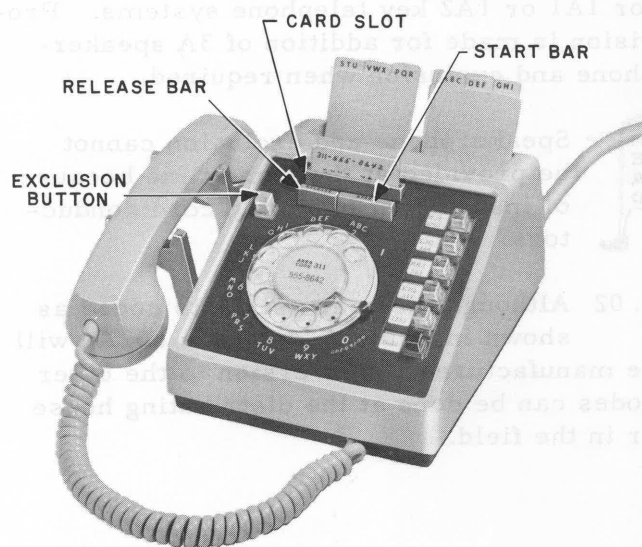

Fig. 1 - 662-Type Telephone Set
1.01 This section covers identification, assembly, installation, maintenance, and connections for the 662-type telephone set. (See Fig. 1 and 2.)
2.07 The exclusion feature, if provided, is actuated by pulling up on the plastic button (Fig. 1) at the left top of the faceplate. The exclusion switch is connected to the switchhook assembly by means of a wire link so that exclusion is cancelled when the handset is restored to its cradle. Sets can be converted to provide exclusion by the installation of a kit of parts. (See Table B.)